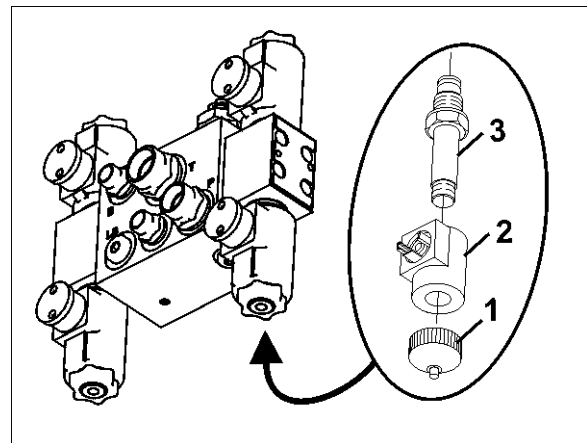

Fig. 174
1. Unscrew the magnetic cap (Fig. 174/1).
2. Remove the solenoid (Fig. 174/2).
3. Unscrew the valve rod (Fig. 174/3) with valve seats and clean with compressed air or hydraulic fluid.